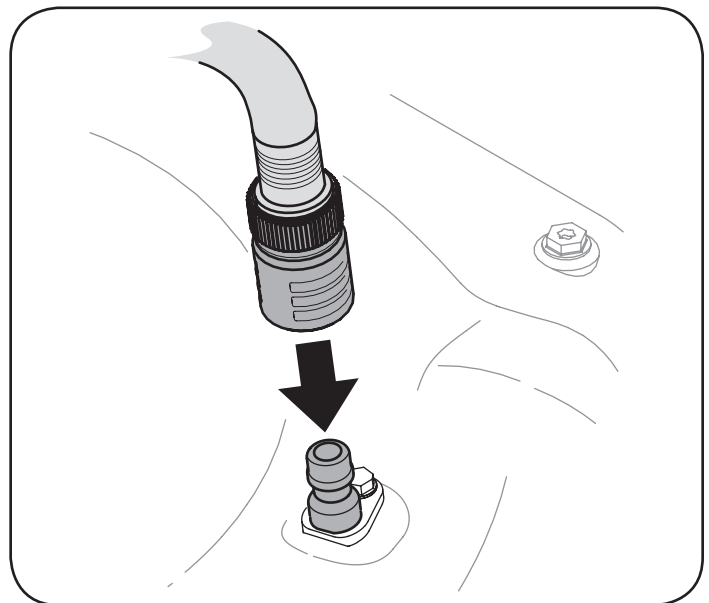

Figure 16
3. Attach garden hose with the deck wash nozzle to the water port on your deck's surface. See Figure 16.